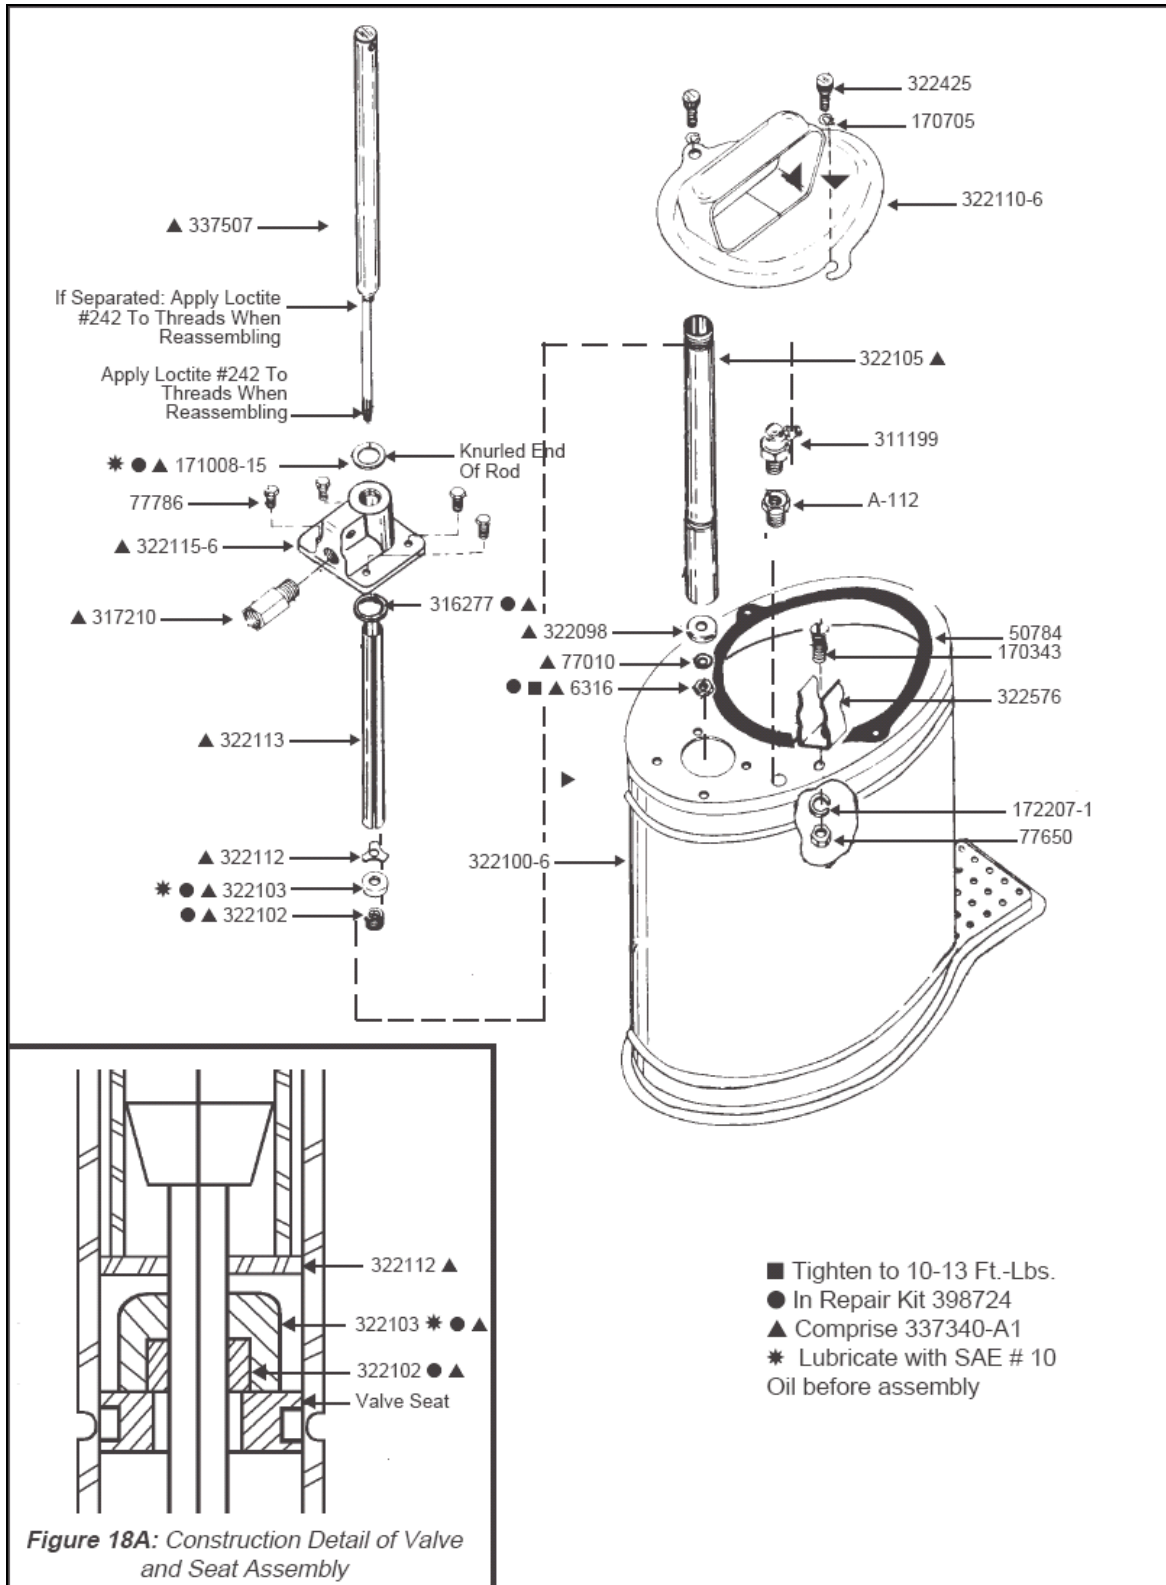

Figure 12: Components of Bucket and Pump Assembly for Series 7149-4 Bucket Pumps
1. Attach link 322092-7 to pump body 322115-6 (see **Figure 12**) with pin 322109-2 and secure with cotter pin 172212-14.